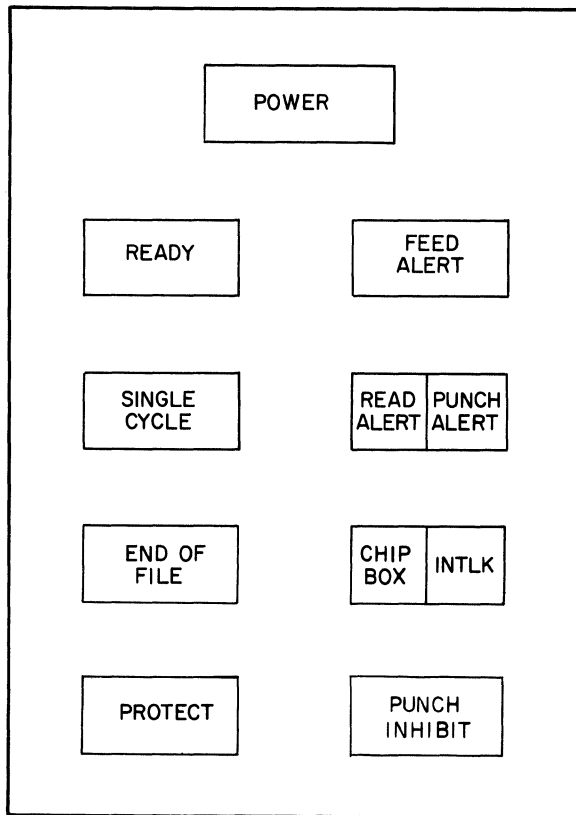

Figure 9. Main Control Panel
The switches and indicators shown in Figure 9 are located on the main control panel next to the output stacker. They are described as follows:
- a. Turn on power by pressing the POWER switch, Figure 9.